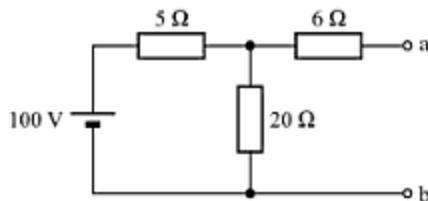

Fig. A-72
- A-31. What resistor draws a current of 5 A when connected across terminals *a* and *b* of the circuit of Fig. A-72. [Ans. 6 Ω]